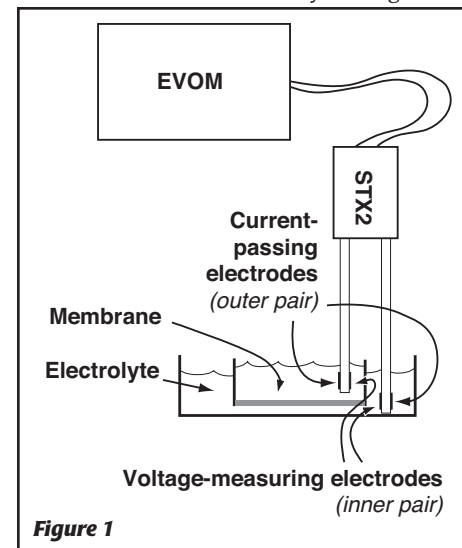

Figure 1
2. Place the electrode into the well so the tips just touch the bottom of the wells *without flexing* the electrode (Fig. 1). Ensure that the longer electrode lightly touches the bottom of the outer well and that it remains vertical. *To obtain reproducible results, the position of the electrodes must remain constant. To improve the reproducibility and stability of the measurement, it is important to steady the electrode and be able to reproducibly position it into the well.*